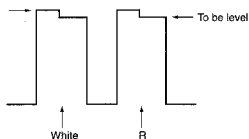

Fig. 3-5
7. Adjust the COMPONENT R-Y so that the TP307 (R OUT) level and the R level will be the same. (Fig. 3-5)